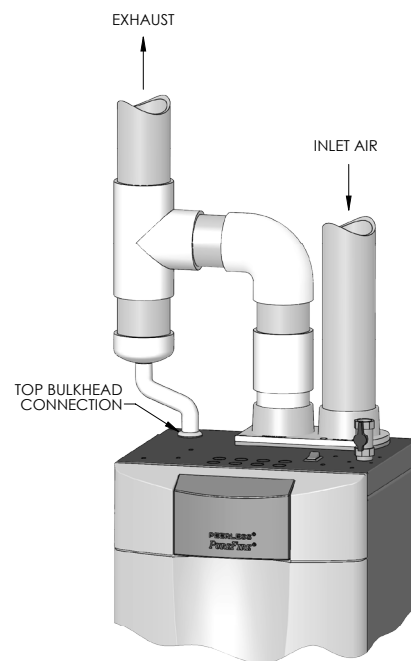

Figure 6.2: Separate Vent Condensate Drain Installation
1. *Condensate Drain Hoses*: PFC-460 boilers have a drain attached directly to the combustion chamber. To prevent debris from entering the heat exchanger, a separate drain connection can be added to the vent system at the top bulkhead drain connection as shown in Figure 6.2. If the top bulkhead drain connection is NOT used, a 3/4" PVC or CPVC cap MUST be attached to the connection using proper solvent glue to prevent flue gases from escaping from the vent system.